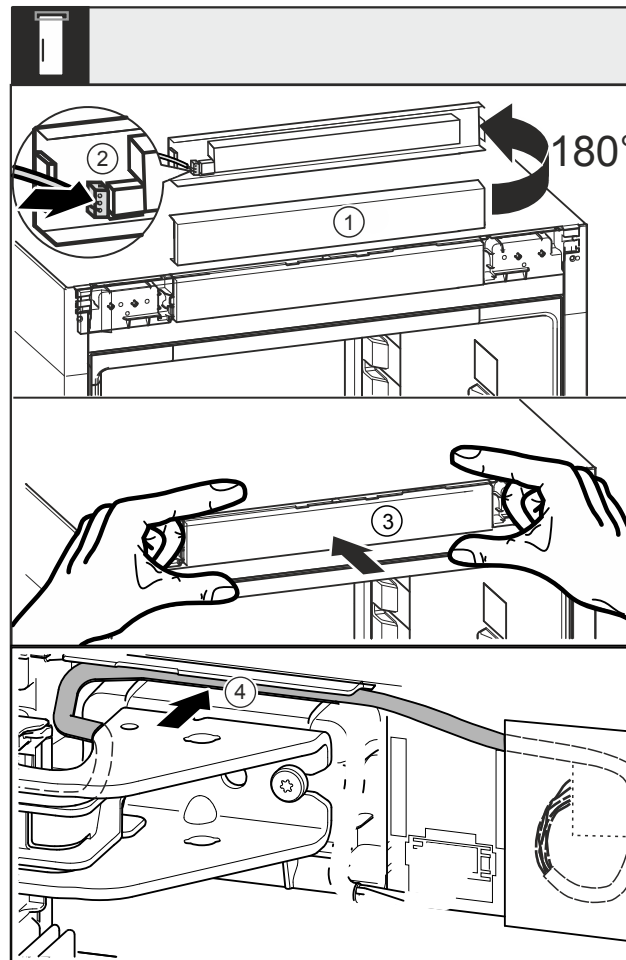

Fig. 36
- ▶ Turn the faceplate Fig. 36 (1) upward by 180°.
- ▶ Snap the plug Fig. 36 (2) into place on the control unit panel.
- ▶ Snap the faceplate Fig. 36 (3) back onto the appliance.
- ▶ Carefully insert the cable into the guide Fig. 36 (4) above the top swap bearing block.